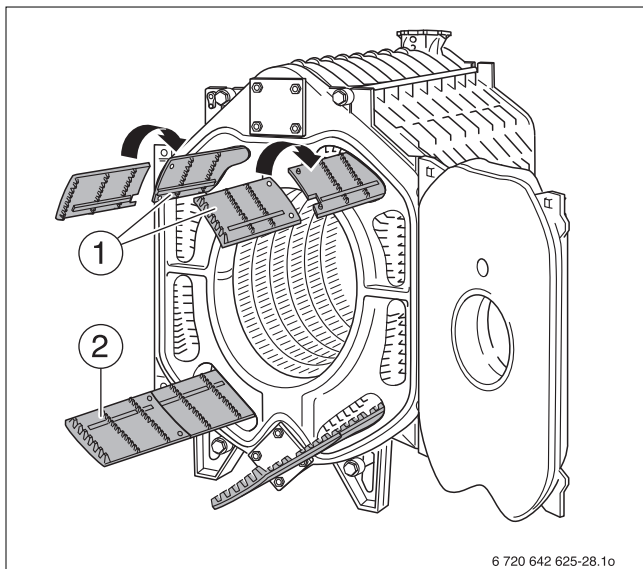
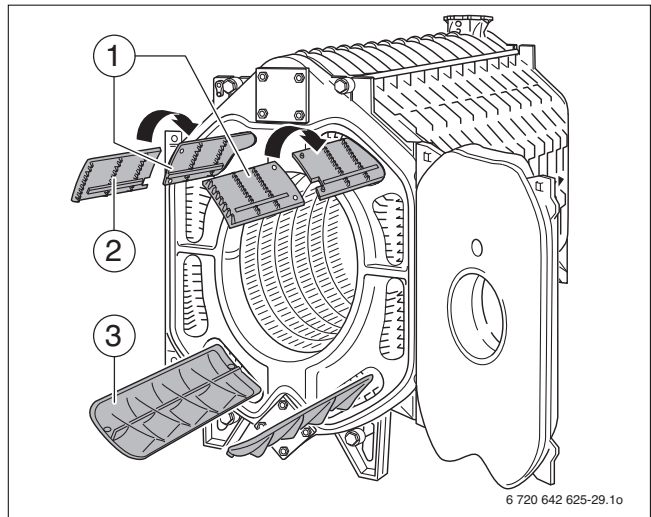
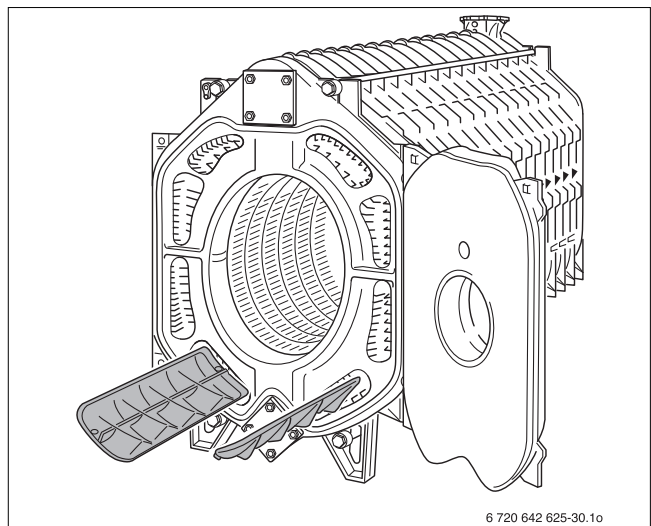

Fig. 31 Insert the flue gas baffles (boiler block with 9 sections)
Fig. 32 Insert the flue gas baffles (boiler block with 13 sections)
Fig. 33 Insert the flue gas baffles (boiler block with 15 sections)
→ Fig. 32, page 24 shows sectional and interconnected baffles.
- ▶ Remove the flue gas baffles from the crate and insert into the flue gas passages as indicated by their inscription (→ Fig. 31, Fig. 32, Fig. 33, and Tab. 11).